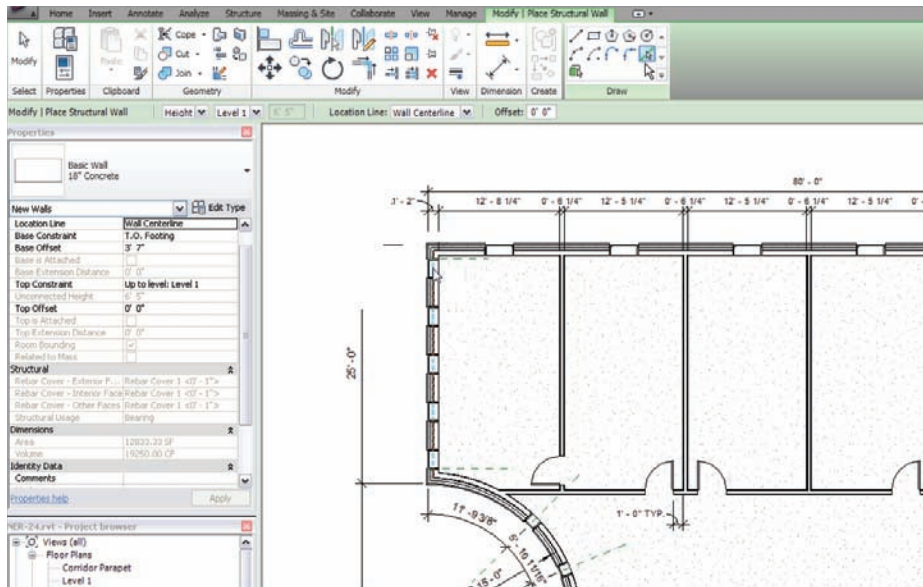

FIGURE 8.50 Picking the core centerline of every exterior wall in the entire model. This includes the corridor and both wings.
7. Pick the core centerline of the exterior wall, as shown in Figure 8.50.